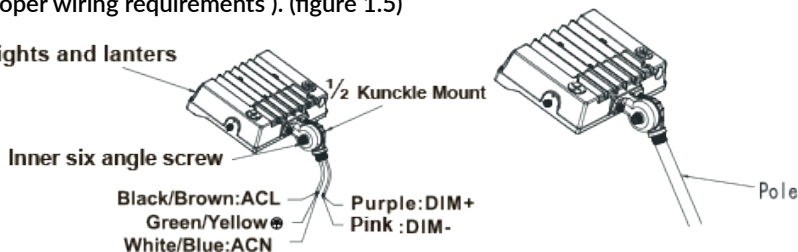
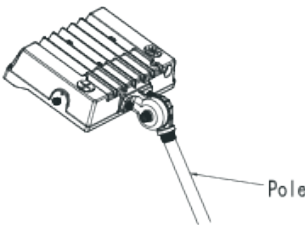

figure 1.3
figure 1.4
Step 2: Finish the wire connection according to the right mode of connection (pay attention to positive wire, negative wire, and ground wire), (figure 1.3) and then put wire into lamp pole; (figure 1.4)